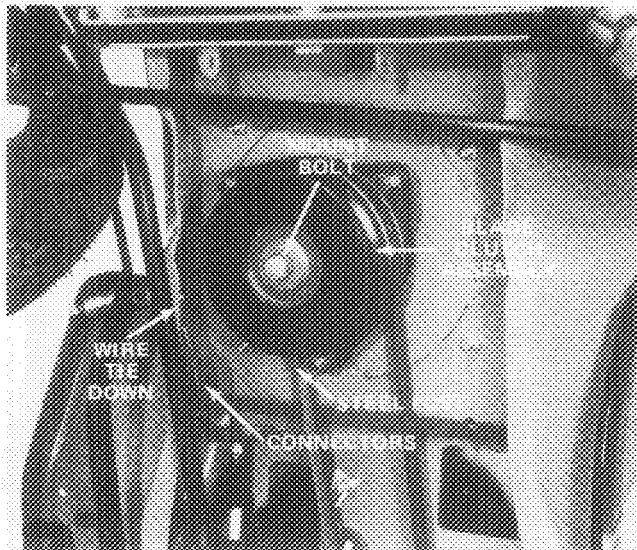

Figure 33
4. Disconnect the bolt retaining the wire tie down from the electromagnetic blade clutch. Disconnect the in-line wire connector (Fig. 33).
5. Remove the bolt securing the blade clutch assembly (Fig. 33) at the front of the machine and remove the assembly. Note how the clutch is prevented from rotating by a steel post welded to the underside of the tractor.